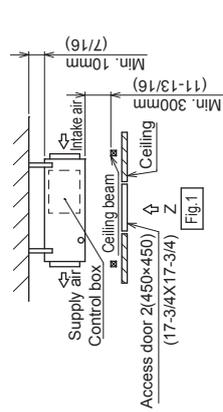

Fig.1
- (1) When a space of 300mm or more is available below the unit between the unit and the ceiling. (Fig. 1)